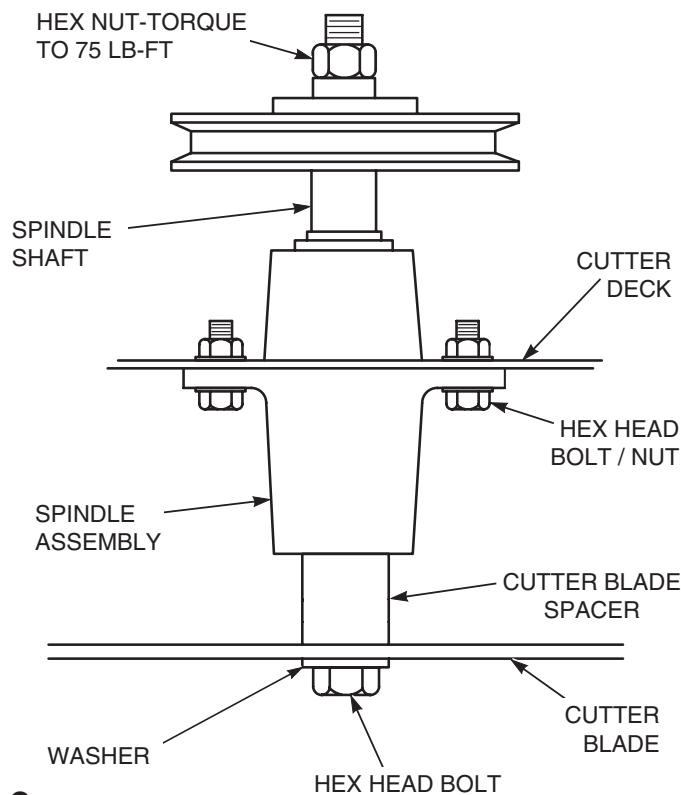

Figure 7-8. Blade Replacement
3. Secure the cutter blades to prevent them from rotating, (use the optional Blade Buddy tool P/N 9212, to assist in securing the cutter blades), remove the nut from the blade attaching bolt. Remove the cutter blade, bolt and spacer from the spindle shaft. See Figure 7-8.
6. Install the hex nut to the blade bolt at the top of the cutter spindle. Secure the blades from rotating and torque to 75 ft/lbs. See Figure 7-8.